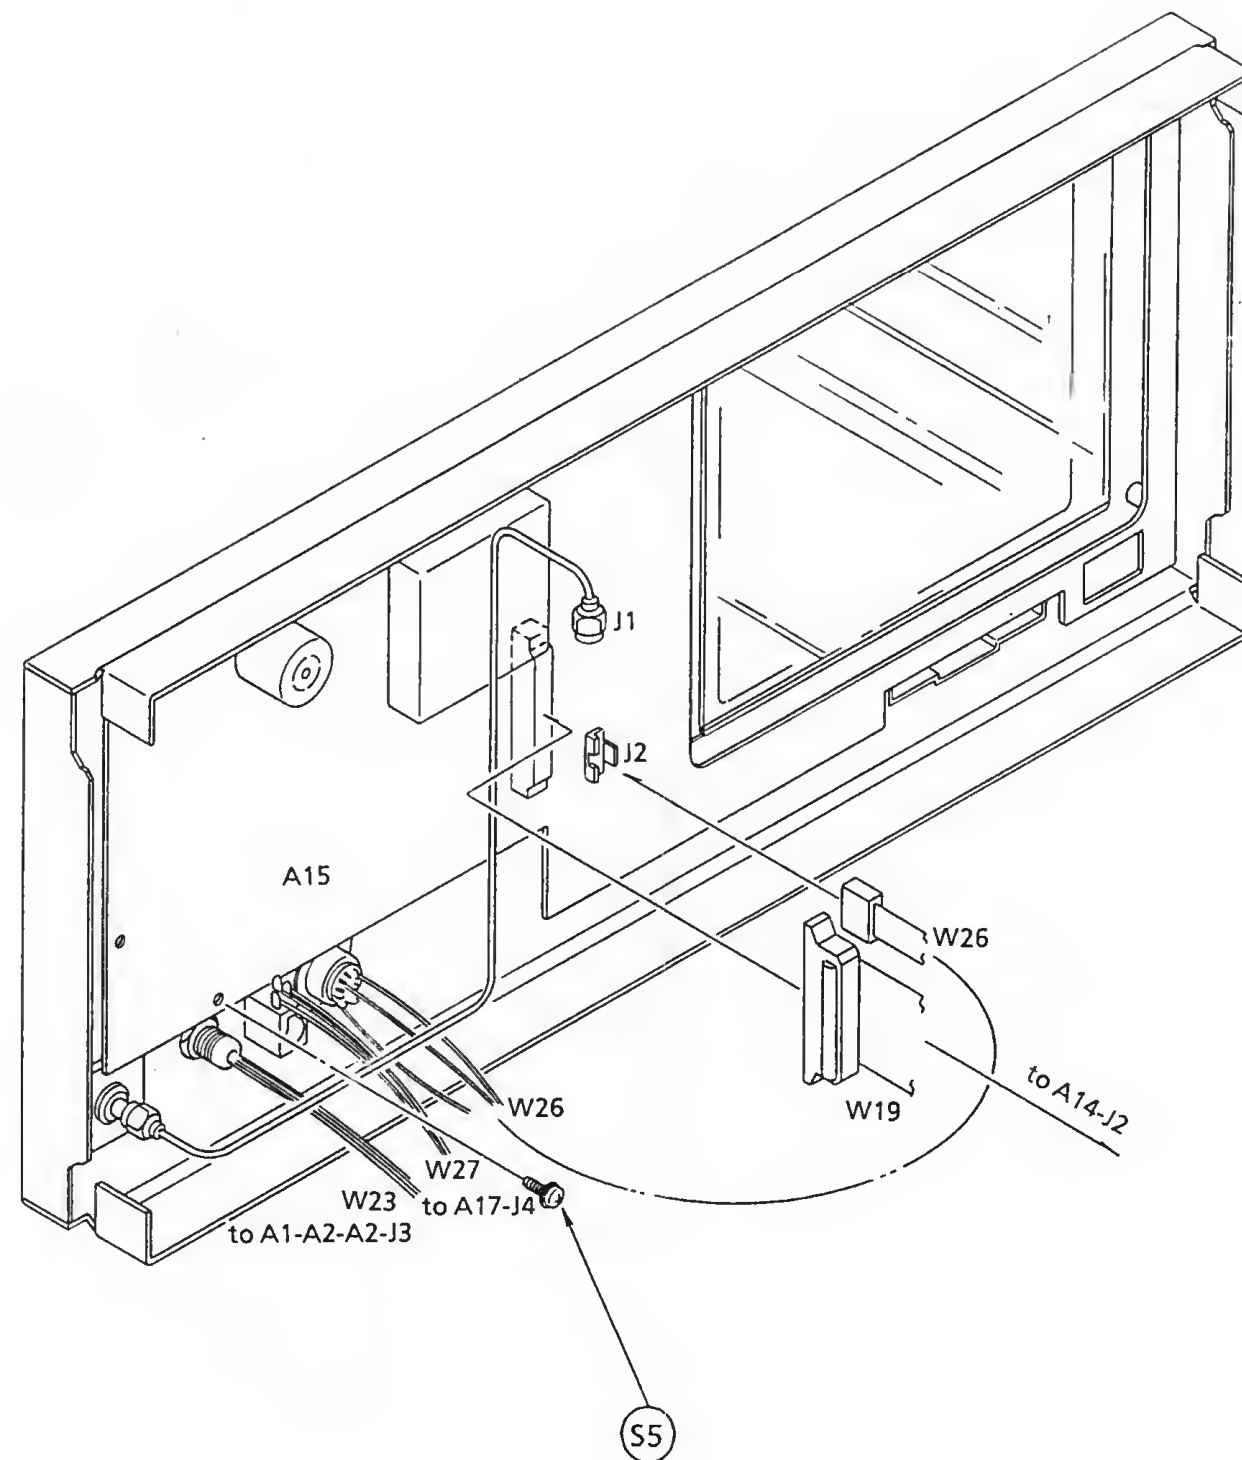

Fig. 5-7 View A
2	Disconnect the W1 semi-rigid cable from the J2, and pull out the front panel ① at the range of the W19, W23 and W27 length (Fig. 5-7).
3	Disconnect the W19 (Fig. 5-7), and place the front panel ① face down.
4	Remove the thirteen screws [S5] (Fig. 5-7), and remove the A15 front panel unit ①.